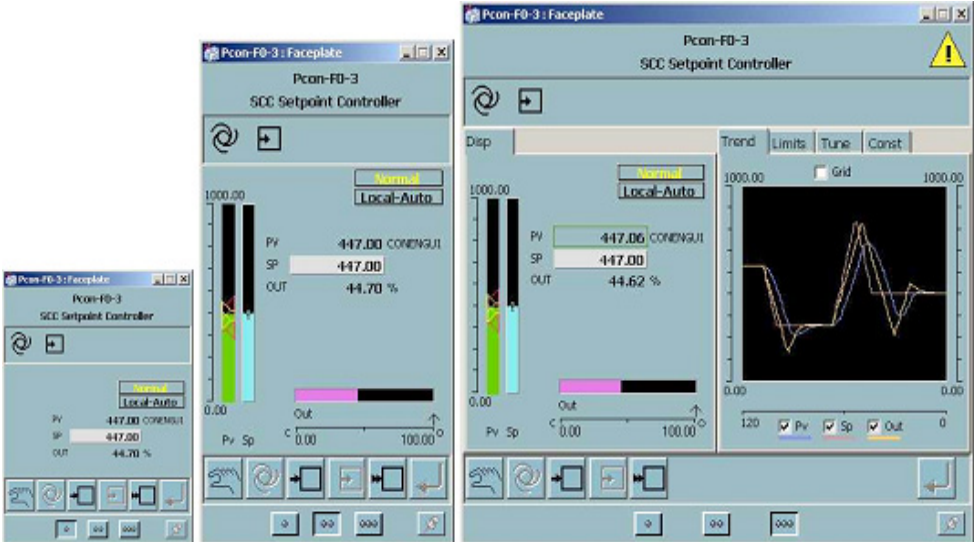

Figure 181. CON Module
**Control (CON).** A Control faceplate represents the 800xA for DCI loop control. The same functions that can be performed and the same values that can be displayed on a loop controller physically located in the plant are performed and displayed on the operator workspace using such a faceplate. The CON module faceplate presents a detailed online display of a single process loop. An 800xA for DCI CON tag is required to acquire process values from a CON module in a DCU controller. The tag is also required to direct control. The CON module function index determines the operations that can be performed from the operator workspace. This includes operations such as setpoint source (local, remote, or supervisory) and mode (manual or automatic) that are changeable from the operator workspace. A CON module reports the process value, setpoint value, output value, target setpoint, target output, alarm levels, range, engineering units, mode, control direction, tuning parameters, ratio constants, alarm status and quality displayed in a CON faceplate. Figure 181 shows the layout of the CON reduced, normal, and extended sized faceplates and their attributes.